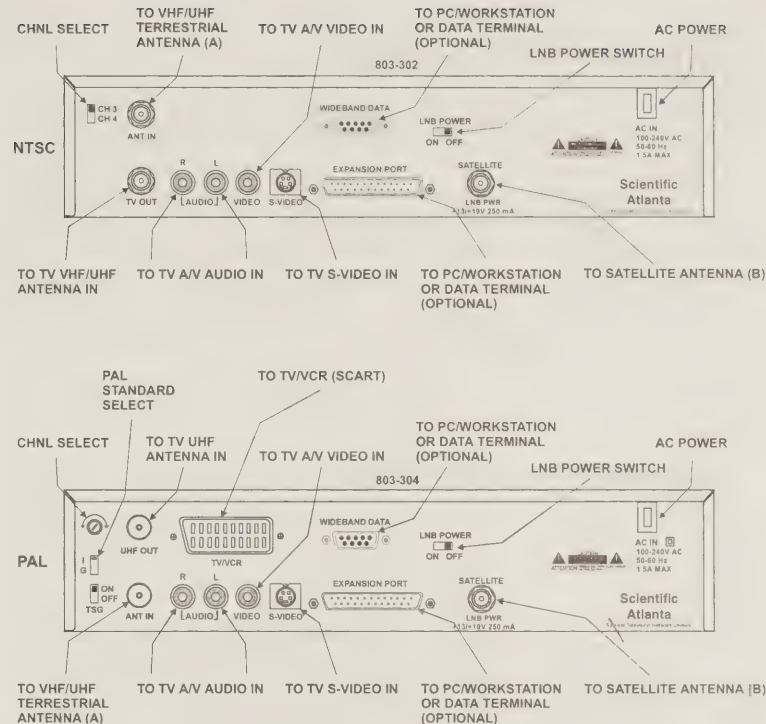

Figure 3. Rear panel connections
To maximize system performance and to take advantage of your TV monitor and A/V capabilities, use stereo A/V audio and S-Video cable connections wherever possible. S-Video connections provide significantly better quality video output in comparison with standard RCA (phono) type or RF (coaxial) type connections. If the system components you are connecting to the BSR do not include S-Video (or SCART) connectors, use A/V connections instead of RF. Note that certain connections may not be required or may be used in place of others, depending on how you intend to connect your receiver. Figure 3 shows available receiver rear panel connections for both NTSC and PAL models. For equipment interconnection details, see "TV & RF plus optional connections".
- ☐ **PAL models only** Connect a SCART cable from the receiver TV/VCR (SCART) connector (see Figure 3 on previous page) to the SCART connector on your TV or VCR